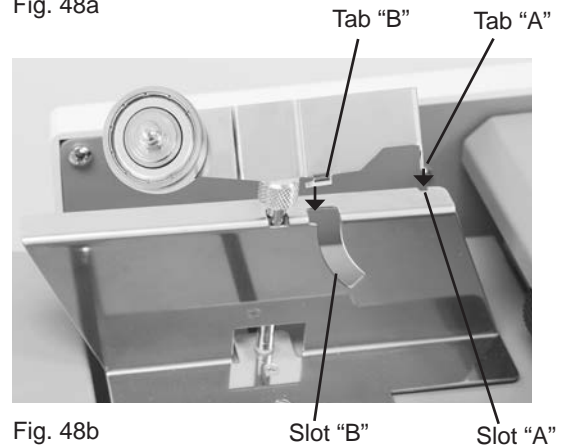

Fig. 48b
2. Attach the cross fold paper guide onto the feed tray paper guide (Fig. 48b) and lower guide.